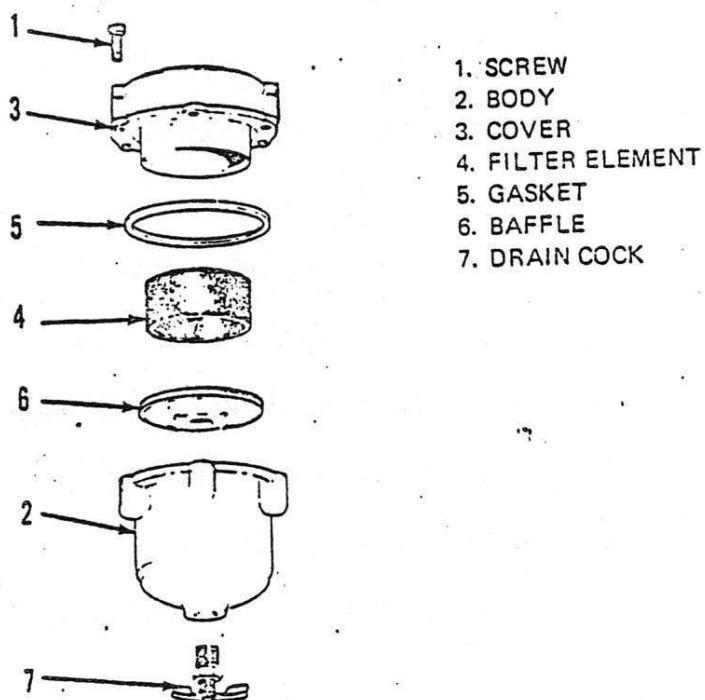

Figure 2-13 Filter
(c). Remove the screws (1, Figure 2-13) and remove the body (2) from the cover (3).
(g). Use Figure 2-13 as a guide, and reassemble the filter.
(2). Remove the screws (1, Figure 2-13) bonnet (2), seat (3), spring (4), diaphragm follower (5), and diaphragm (6).
(3). Loosen the jam nut (7) and remove the handwheel (8).
(4). Remove the screws (9), baffle (10), gasket (11), valve seat (12), o-ring (13), and gasket (14).
(5). Remove the plunger (15), o-ring (16), spring (17), washer (18), and o-ring (19) from the body (20).